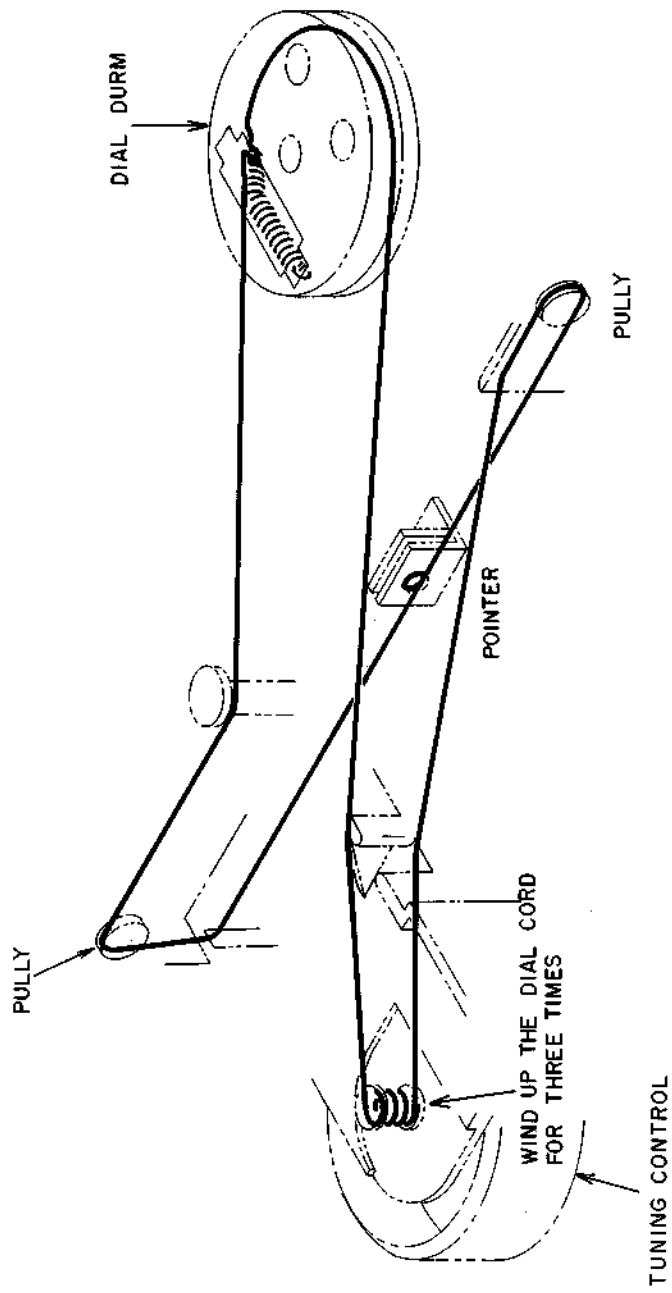

Fig. 7-2.
3. Set the Dial Cord as shown in Fig. 7-2.